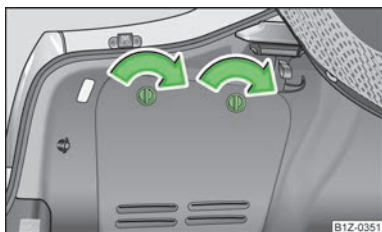

Fig. 83
- The compartment is opened by turning the locks in the direction of the arrow » Fig. 83.